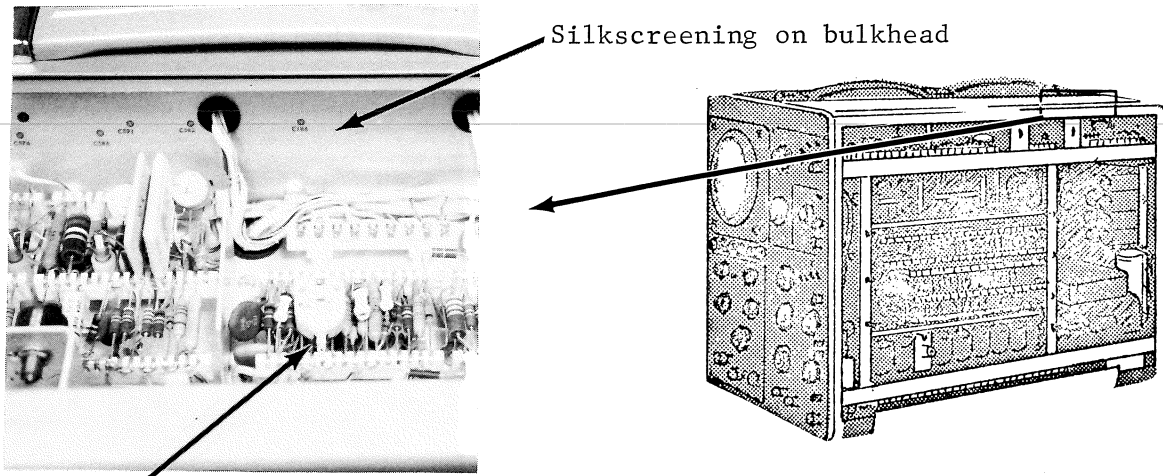
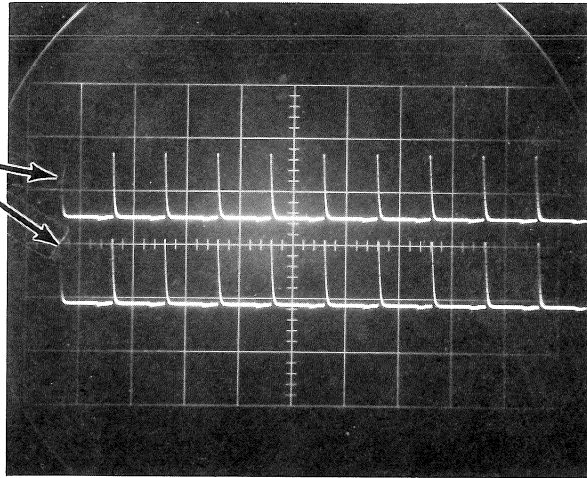

Figure 68
Figure 69
3. Adjust B SWEEP UNBLANKING compensator (C186-See Figure 68) so that the intensity at the start of B sweep (the first time mark) matches the intensity at the start of A sweep. (See Figure 69)